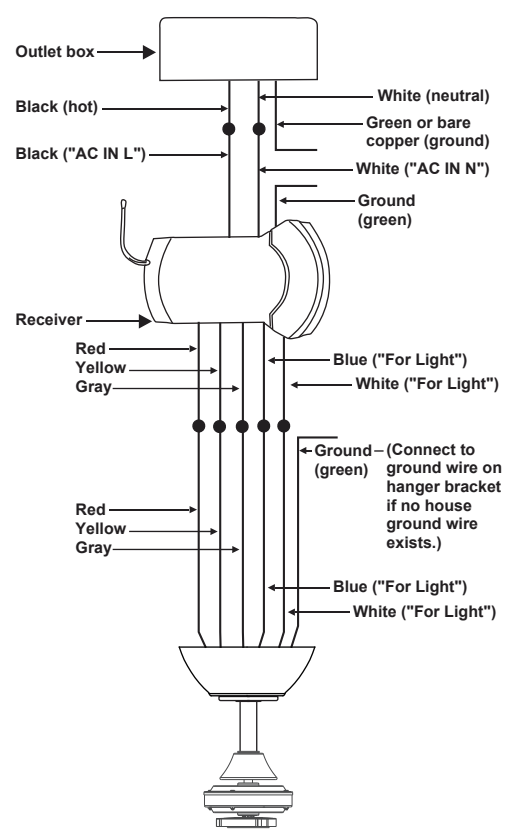

Figure 9
Step 2. (Fig. 9) Motor to Receiver Electrical Connections: Connect the Red wire from the fan to Red wire from the receiver. Connect the Yellow wire from the fan to the Yellow wire from the receiver. Connect the Gray wire from the fan to the Gray wire from the receiver. Connect the Blue wire from the fan to the Blue wire marked "For Light" from the receiver. Connect the White wire from the fan to the White wire marked "For Light" from the receiver. Secure wire connections with the plastic wire nuts provided.
Step 3. (Fig. 9) Receiver to House Supply Wires Electrical Connections: Connect the Black (hot) wire from the ceiling to the black wire marked "AC in L" from the receiver. Connect the white (neutral) wire from the ceiling to the white wire marked "AC in N" from the Receiver. Secure the wire connections with the plastic wire nuts provided.
Step 4. (Figure 9) If your outlet box has a ground wire (green or bare copper) connect it to the fan ground wires and the receiver ground wire; otherwise connect the hanging bracket ground wire to the fan and the receiver ground wire. Secure the wire connection with a plastic nut provided. After connecting the wires, spread them apart so that the green and white wires are on one side of the outlet box and other wires are on the other side. Carefully tuck the wire connections up into the outlet box.